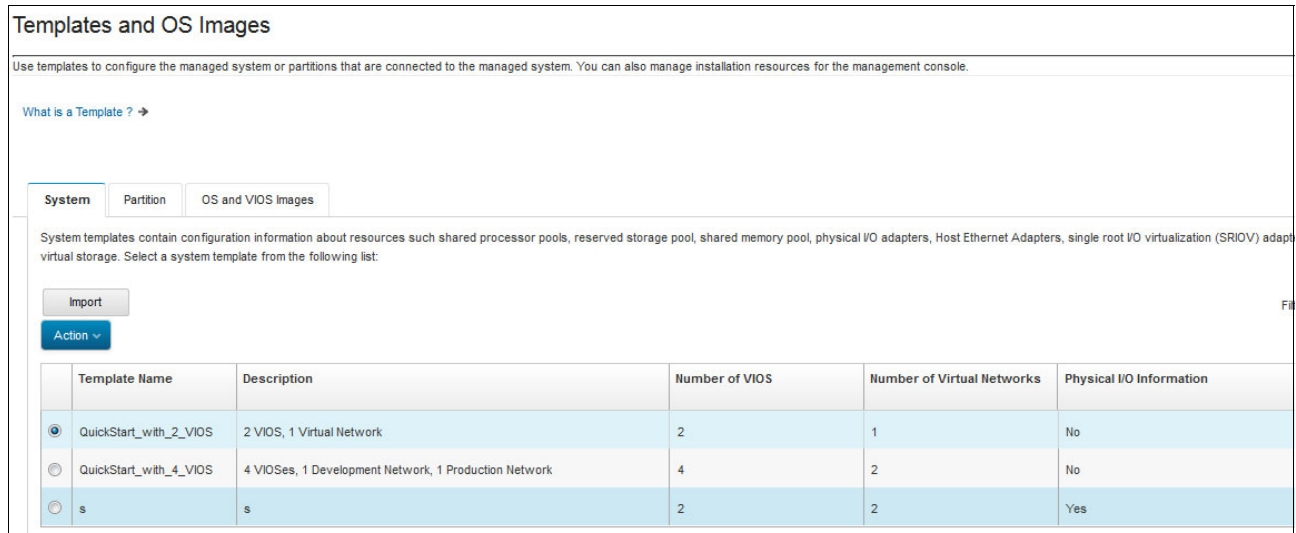

Figure 2-24 Templates and OS Images
2. Select **Templates and OS Images** (Figure 2-24).